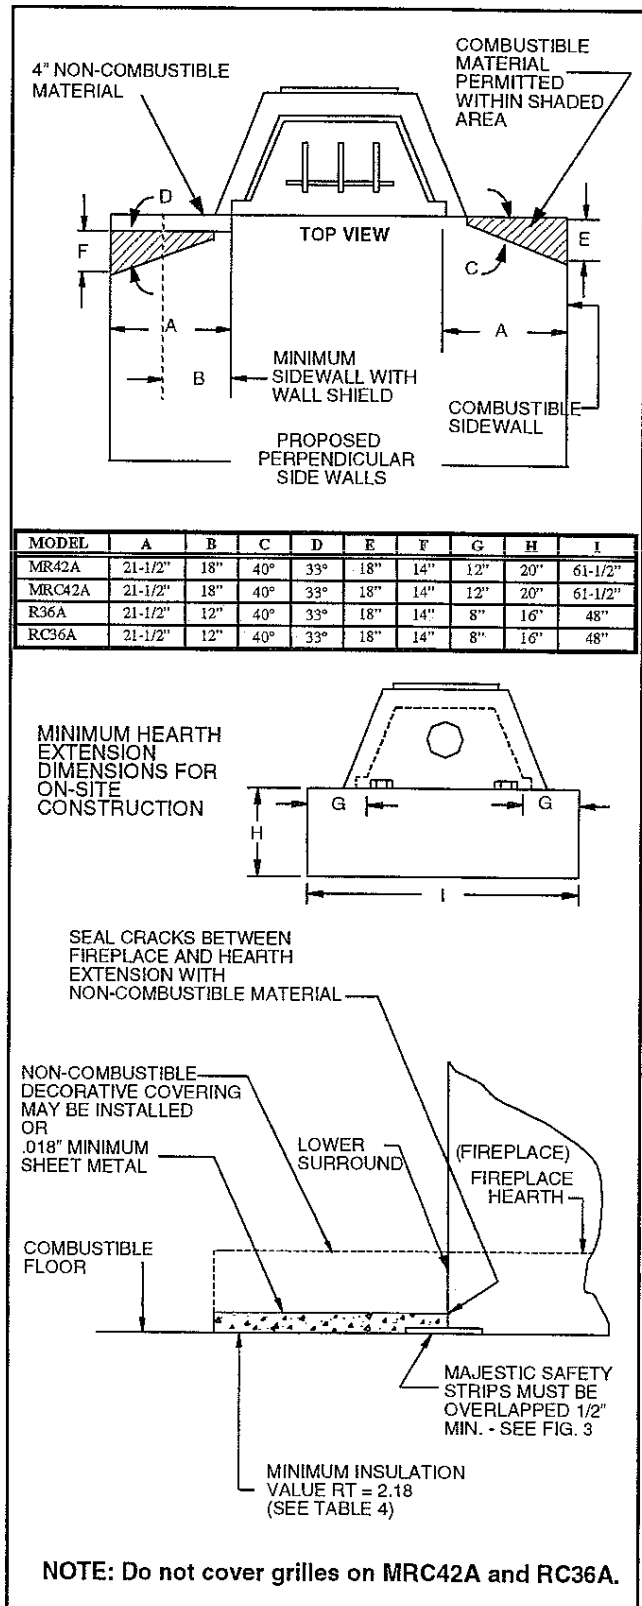

Fig. 23. Protection of adjacent combustible side walls and hearth extension dimensions.
A hearth extension is required to protect combustible floor construction in front of the fireplace. See Fig. 23 for minimum dimensions and mounting detail.
The hearth extension described in Fig. 23 must be a durable non-combustible material with a minimum (total) R_T value of 2.18 when used with Model SK8, 2-Wall Chimney System and the minimum (total) R_T value for Model S, 3-Wall Chimney systems is 1.09 for MR42/MRC42A units. (See Table 4 for examples.) The overall height (above combustible floor), depth and width must be as indicated, with it centered to the fireplace opening. (See Fig. 23.)
The top of the insulation must be covered with a non-combustible decorative covering or a piece of .018" minimum sheet metal, to protect the hearth extension material. (See Fig. 23.)
Secure the hearth extension to the floor to prevent shifting, using trim molding or other similar means at the three (3) outer edges. Seal the crack between the fireplace hearth and the hearth extension with a non-combustible material. (See Figs. 23, 24 and 25.)
WARNING: HEARTH EXTENSION MUST BE INSTALLED IN ACCORDANCE WITH FIGS. 23, 24 AND 25.
NOTE: These units are not to be installed in a recessed combustible floor material so that the extended hearth is flush with the opening. A flush hearth application is acceptable if installed according to Fig. 23.